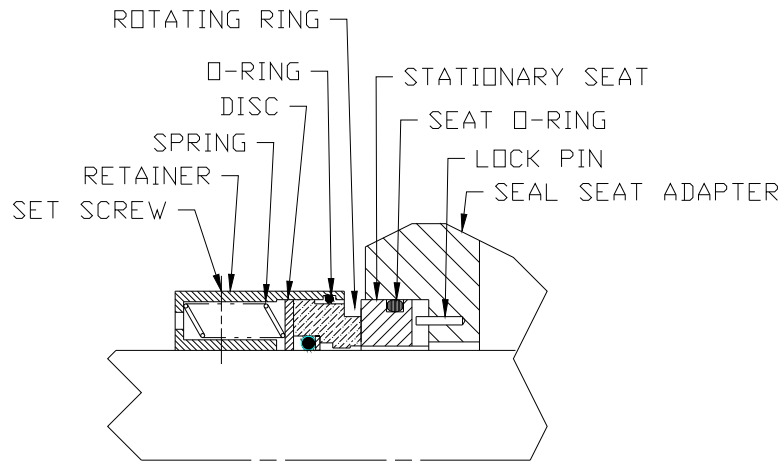

Figure 3 – Multi-Spring Seal
9. Disassemble power rotor (63) as follows (See seal insert Figure 3):
- a. Using a flat nosed tool, such as a screw driver, remove Truarc rings (42) located on both sides of ball bearing (49) from their grooves in power rotor (63).
- b. Sealed ball bearing is assembled to power rotor (63) with a light press fit. Ball bearing (49) may be removed by using a bearing puller or a vertical arbor press. When using press, two pieces of key stock are to be placed through openings of mechanical seal seat adapter (48) underneath ball bearing (49) on both sides of power rotor shaft. Key stock should be long enough to support power rotor (63) as it is placed in press. Press ram is to be positioned against power rotor (63) coupling end face. Gently press power rotor (63) through ball bearing (49). Ensure power rotor (63) does not fall to floor once ball bearing (49) is off of its diameter.
1. Install O-ring (28) and orifice plug (102) in discharge housing (24).
2. Install discharge housing (24) in pump case (1), from suction end of case, aligning groove in housing (24) to stop pin hole in case (1). Install stop pin (6) with Dyna Seal (7) in case (1).
3. Install O-rings (27) on oil balance tube (26) and oil balance tube (26) in one end of inlet housing (73). Install stop pins (3) in same end of inlet housing (73).
4. Install assembled inlet housing (73) in case (1), ensuring that oil balance tube (26) and vent pins (3) engage holes in discharge housing (24).
5. Install tube (26) in outboard end of discharge housing (24)
6. Install balance piston (79) on inboard cover (46). Install idler stop (22) on inboard cover (46) with cap screws (81). Torque cap screws to value on assembly drawing. Install O-ring (28) on inboard cover (46).
7. Install inboard cover (46) on case (1) using bolts (4). Be sure that tube (26) lines up with pin hole in inboard cover (46). Torque bolts to proper value on assembly drawing.
8. Assemble power rotor (63) and mechanical seal (25) as follows (see seal insert Figure 3 above).
- a. Install seat O-ring in groove of mechanical seal (25) stationary seat. Install mechanical stationary seat in seal seat adapter (48) ensuring that spring pin is properly positioned to engage slot in seal seat.
- b. Install spacer (38) on power rotor (63).
- c. Install mechanical seal rotating assembly on power rotor (63) next to spacer (38). Apply Loctite 242 or equivalent to seal set screws and tighten set screws.
- e. Install assembled bearing spacer (48), with stationary seat to power rotor shaft next to mechanical seal rotating face.
- g. Install inner Truarc ring (42) in groove of power rotor (63).
- h. Press bearing (49) on power rotor (63), pressing only on inner race of ball bearing (49) until it is located next to inner Truarc ring (42).
- i. Install outer Truarc ring (42) in groove of power rotor (63).
9. Install O-ring (80) in seal bore of inboard cover (46).
10. Install assembled power rotor (63) in pump, centering all parts as they enter inboard cover (46). Align one of openings in spacer (48) over drain in inboard cover (46).